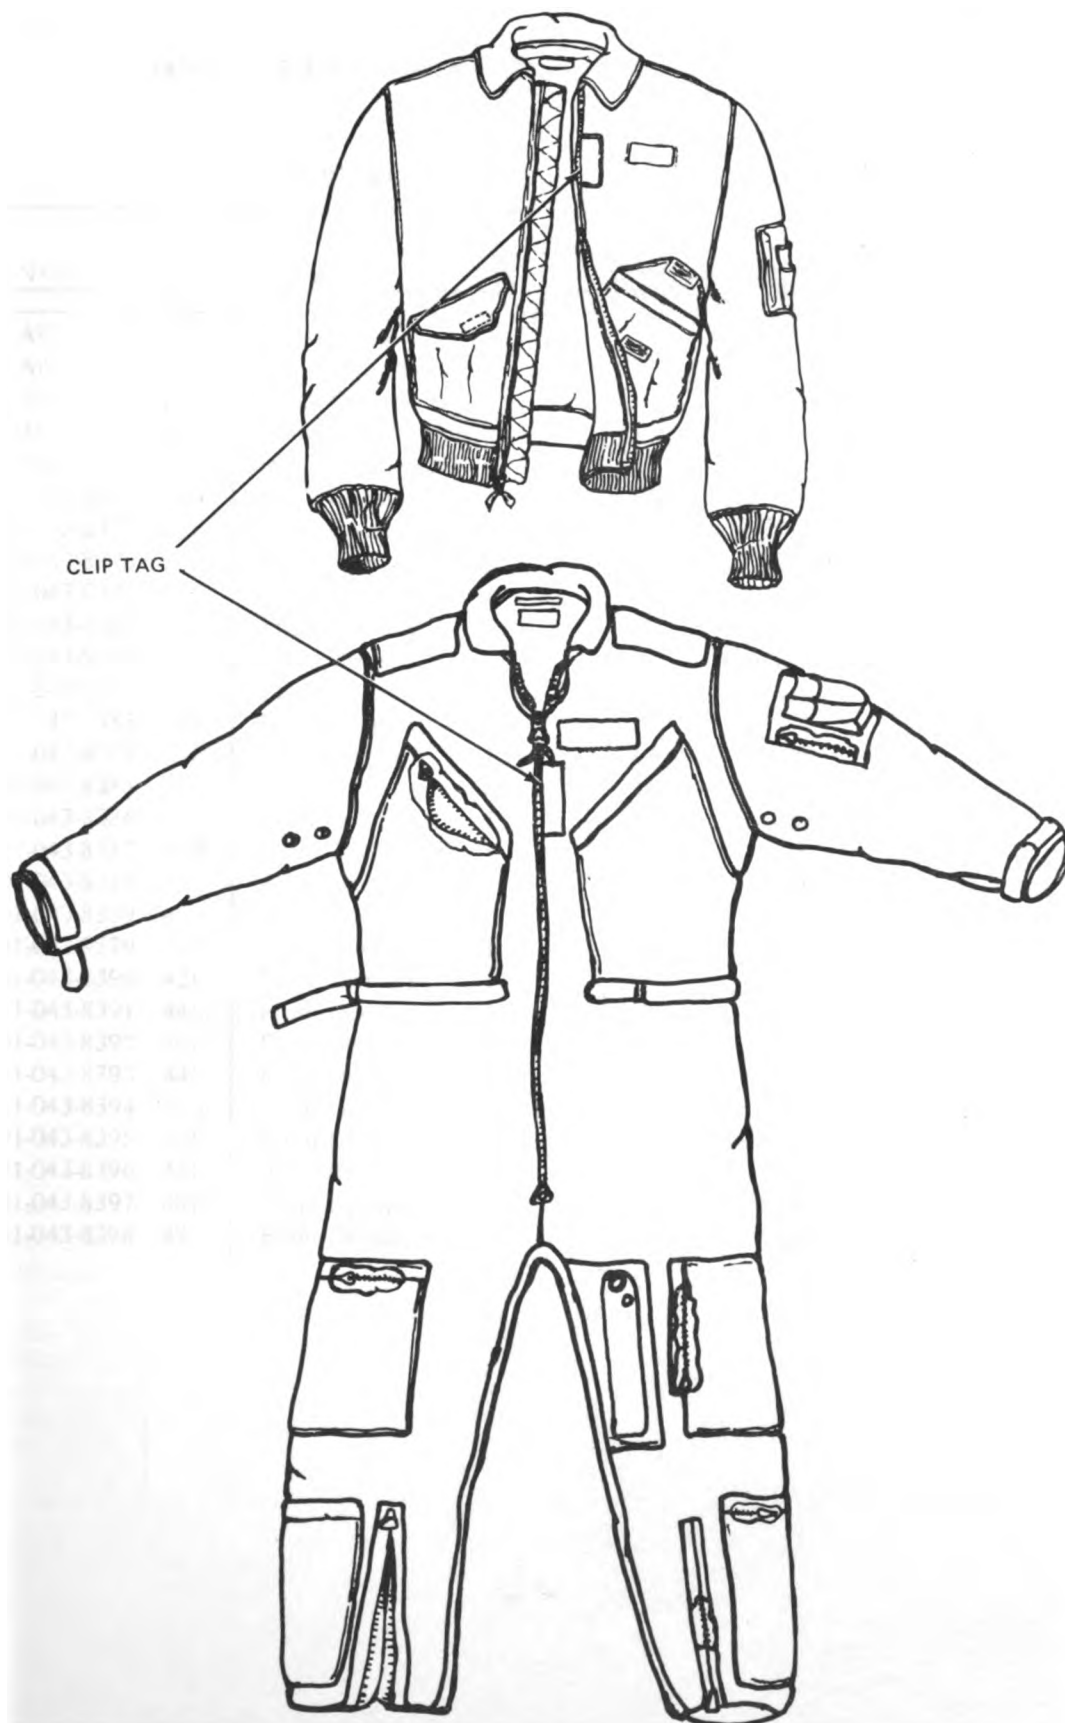

Figure 4-6. Front View of Coveralls and Jacket
- f. See figure 4-6 for attached clip tab.